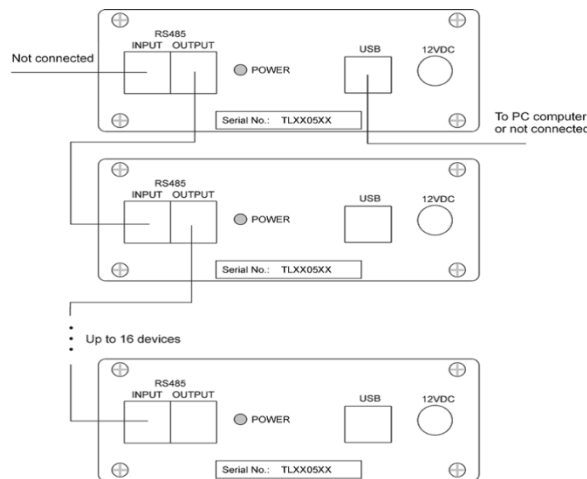

Fig. 4. Connection of multiple TDR/MUX/mpts devices in a chain to control the measurement experiment with up to 128 TDR probes (LP/ms and/or FP/mts).
- RJ12 socket for serial RS485 INPUT and OUTPUT to connect up to 16 TDR/MUX/mpts devices in a chain (Fig. 4).